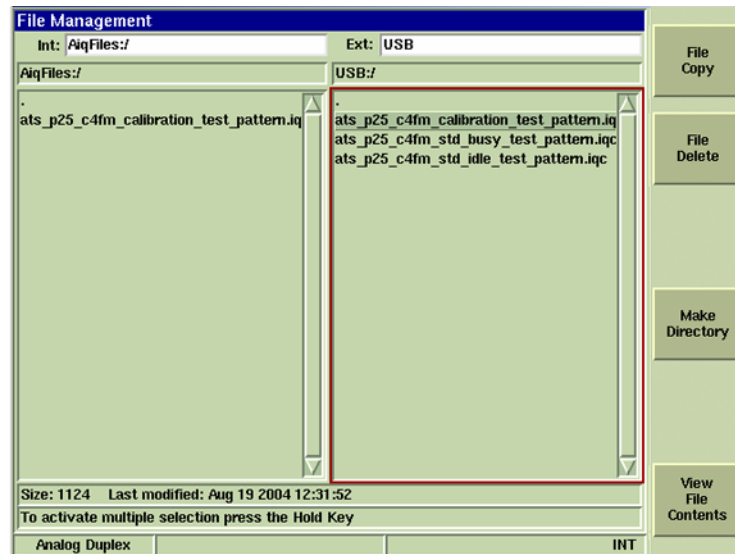

Fig. 3-33 File Management Tile - Copy Complete
9. Imported file(s) now appears in data field (refer to Fig. 3-33).
7. Select file to be copied from Test Set to USB device and press the [\[File Copy\] Soft Key](#). File appears under the USB:/ Directory when copy is complete (refer to Fig. 3-33).